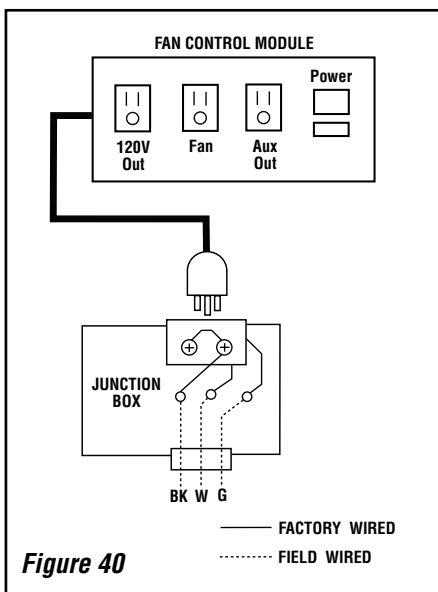

Figure 40
4. Connect the power supply wires to the duplex receptacle as shown in **Figure 40**.